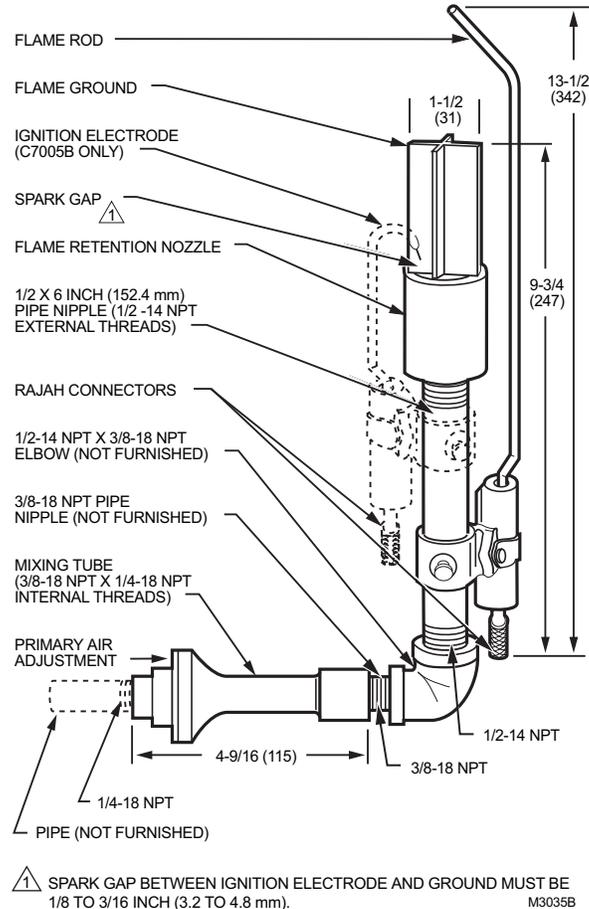

Fig. 1. C7005 gas pilot and flame rod assembly in in. (mm).
Fig. 1 illustrates the use of a 90 degree reducing elbow (not furnished) to provide a right-angle connection. Use a straight reducing coupling or a 45 degree reducing elbow (not furnished) for piping and mounting if more convenient.
Connect the flame rod (see callout 1, Fig. 1) to the F terminal of the flame safeguard control. Keep this leadwire as short as possible; capacitance increases with leadwire length, reducing the flame signal strength. *The ultimate limiting factor is the flame signal* (see Table 1).
- Connect the ignition electrode of the C7005B (callout 3, Fig. 1) to the secondary high tension terminal of the ignition transformer.
No ground leadwires are required. The flame ground and flame retention nozzle (callouts 2 and 4, Fig. 1) act as the ground electrode for the flame rod and the ignition electrode. The case of the ignition transformer will act as the ground connection when it is securely fastened to the burner.
With the gas pilot installed and the pilot burner running, adjust the primary air adjustment (callout 10, Fig. 1) for an air-gas mixture that provides the type of flame required for the particular installation. Be sure you have the proper mixing tube for the type of gas (natural or LP) being used. A medium-hard flame generates the greatest response from the flame detector circuit.